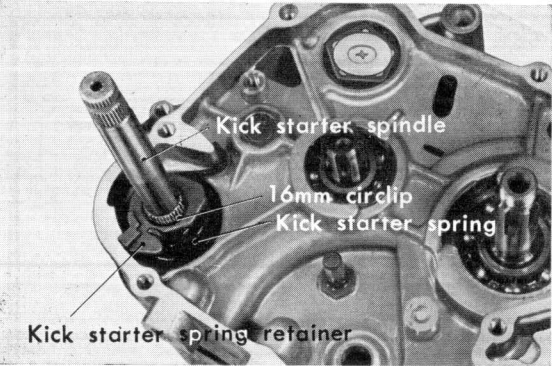

Figure 3-89. Removing kick starter
As the spindle returns to the original position by the action of the kick starter spring, the ratchet disengages from the pinion and returns to the position for the next kick cycle. (Fig. 3-89)
- (1) Remove the clutch unit.
- (2) Remove flywheel and stator assembly.
- (3) Remove the primary driven gear.
- (4) Remove the gear shift spindle.
- (5) Remove the 16mm circlip from the kick starter spindle and disassemble the kick spring retainer and the kick starter spring. (Fig. 3-89)
- (6) Separate the right and left crankcase halves and then lift out the spindle from the left crankcase.